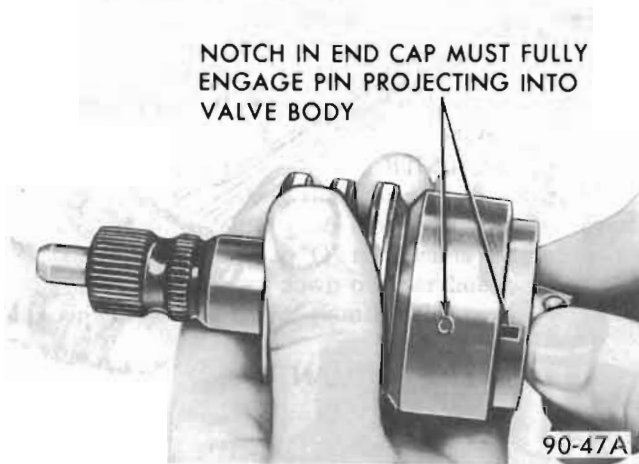

Figure 90-47 Installing Stub Shaft Assembly
6. Align the notch in the shaft cap with the pin in the valve body and press the spool valve and shaft assembly into the valve body. See Figure 90-47.